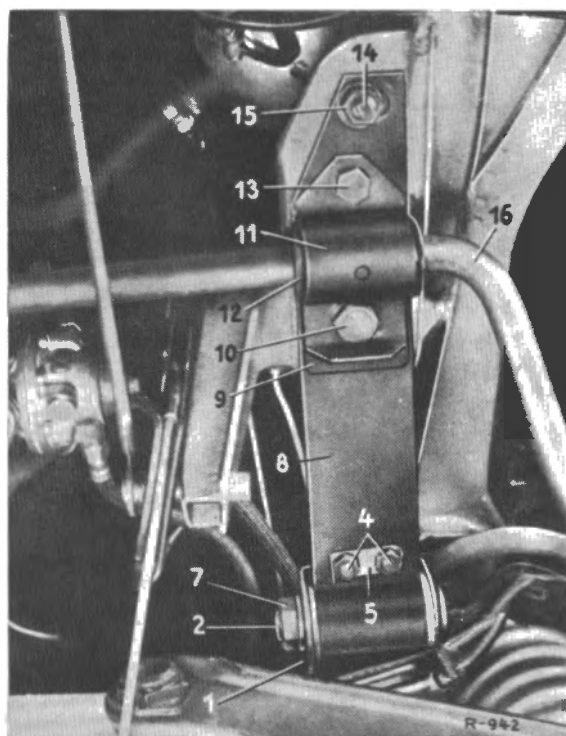

Fig. 33-1/3
Note: When removing the front axle support it is not necessary to loosen the hexagon nut (15) at the eccentric bolt (14). However, if it proves difficult to knock out the bolt (2) mark the position of the flat spring on the chassis base panel and unscrew the hexagon nut at the eccentric bolt. In such cases the flat spring remains attached to the front axle support when the latter is removed (Fig. 33-1/3).
7. Disconnect the brake hose from the brake line left and right at the chassis base panel (Fig. 33-1/9).